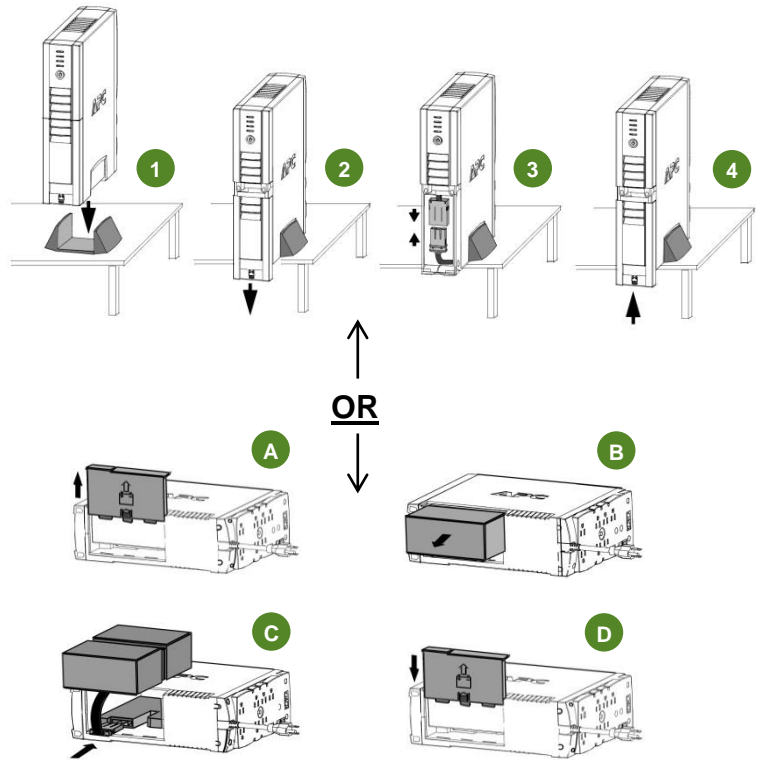

Figure 1
Connect the UPS's Internal batteries (Figure 1):
**NOTE: Battery Cartridge installation will differ depending on UPS model. Figure 1 illustrates some of the variations in Battery Cartridges. Please follow the illustration which best resembles your UPS.**
Procedure for Figure 1: (1, 2, 3,4)
Procedure for Figure 1: (A,B,C,D)